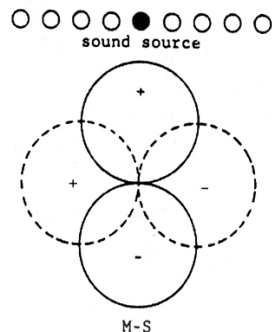

Figure 3
In the microphone placement we showed originally each ribbon is aimed at 45 degrees from center stage. The angle between the ribbons is 90 degrees, with center stage “splitting the difference”. Now rotate the microphone 45 degrees counter-clockwise as in *Figure 3*. Notice that the upper ribbon is aimed directly at center stage, and the lower ribbon is 90 degrees to center stage. We call the microphone aimed at center stage by a variety of names; mid, mono, (M). The other unit in our package, now aimed at 90 degrees to the sound source at center stage can be called a